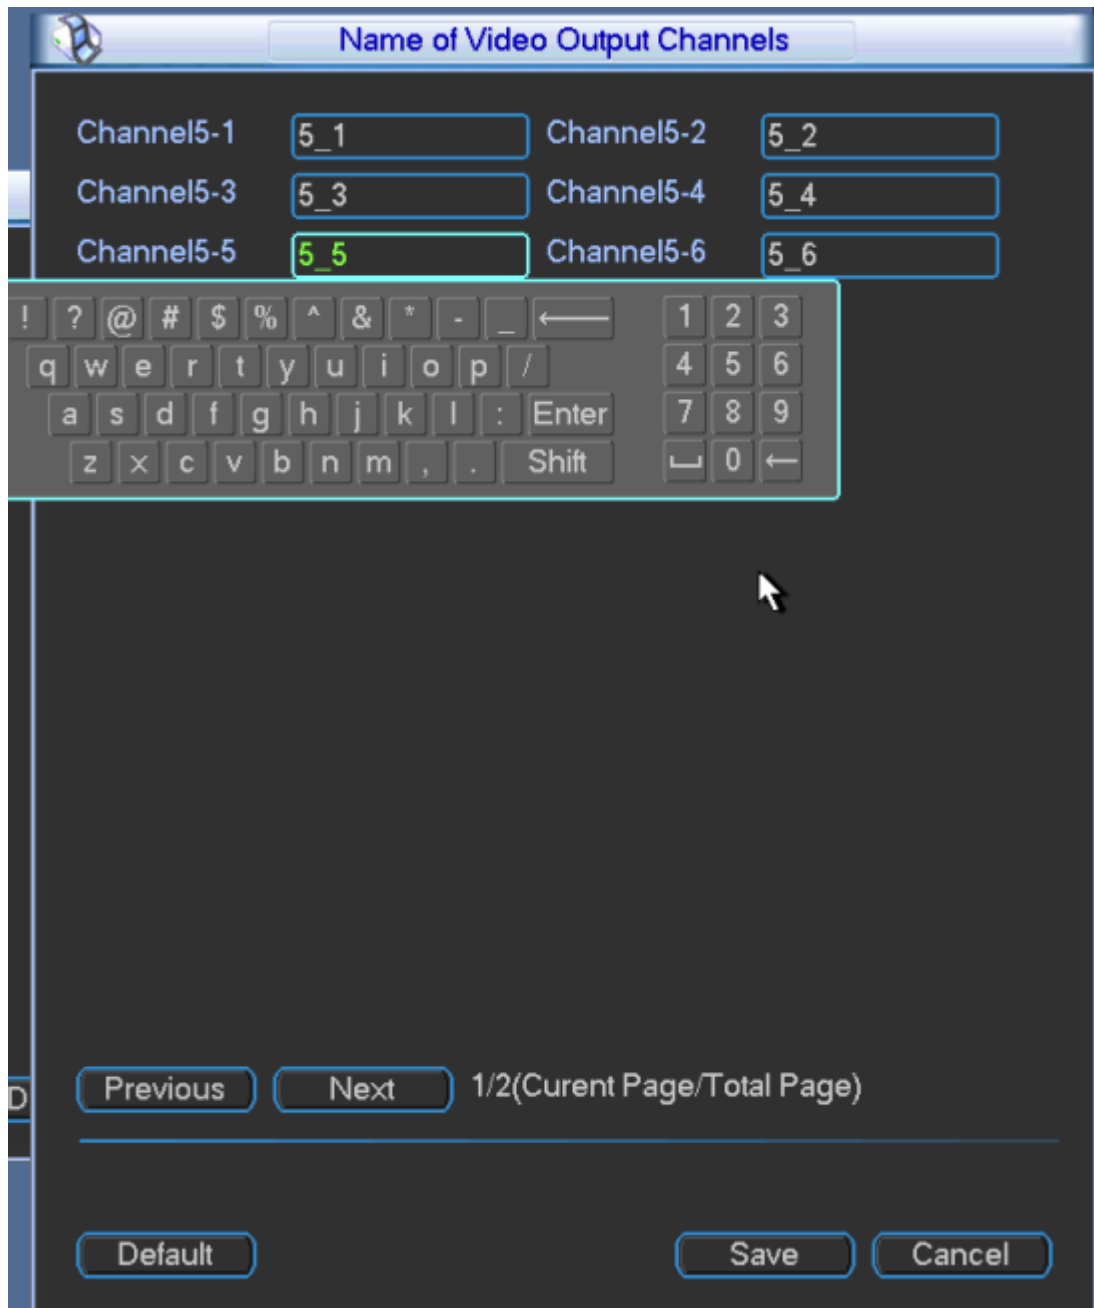

Figure 3-63
- Step 1 Click “Modify” in the right of “Channel Name”. The system displays “Name of Video Output Channels” interface, as shown in Figure 3-63.